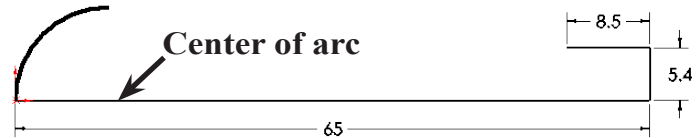

Fig. 4
Step 1. Click **Centerpoint Arc**  (S) in the **Arc flyout**  on the Sketch toolbar.
Step 2. Click the bottom horizontal line close to the Origin to place the center of the arc. Click the Origin to start the first end point, then move cursor down and around counterclockwise 270 degrees and a 90 degrees arc. Click to place the second end point, **Fig. 4**. Use the inferencing line, the dotted line that appears when you draw the arc 90 degrees.